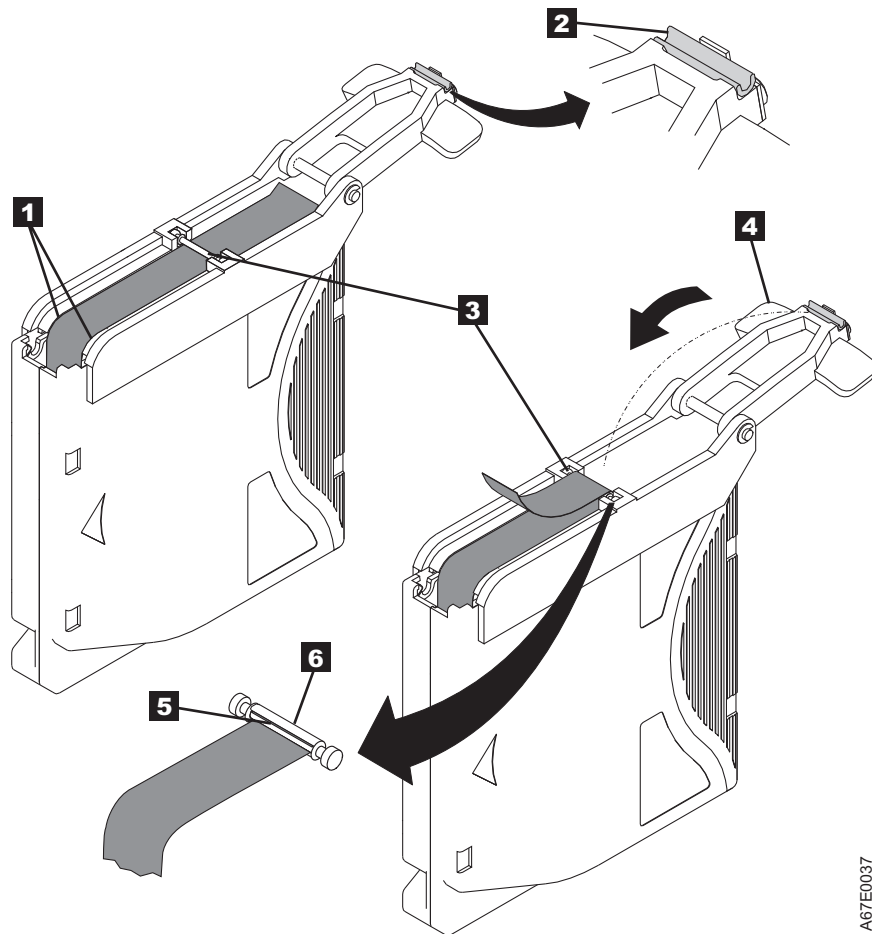

Figure 25. Attaching the leader pin to the tape
7. Position the tape in the alignment groove of the leader pin attach tool (see **1** in Figure 25 on page 59).
8. Place a new C-clip into the retention groove (**2** (Figure 25 on page 59) on the leader pin attachment tool and make sure that the clip's open side faces up.
9. Place the leader pin (from step 6) into the cavity (**3** (Figure 25 on page 59) of the leader pin attach tool.
10. Fold the tape over the leader pin and hold it with your fingers (see Figure 25).